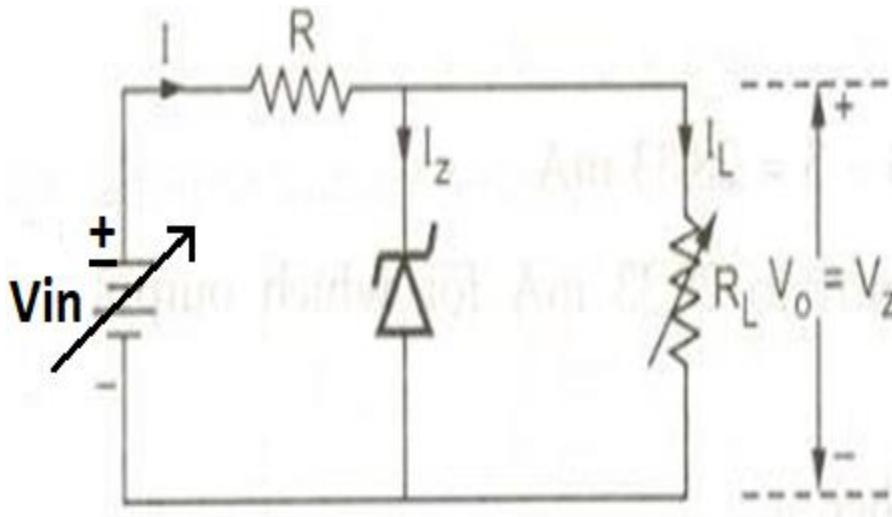

Fig:37
#### 1.24.5 Design of Zener regulator when both Supply voltage and load are varying (Fig.37)
- In the above Fig.37 both input voltage  $V_{in}$  and load  $R_L$  are varying.
- $[(V_{in(\min)} - V_Z)/R] - I_{L(\max)} > I_{Z(\min)}$  ----- (1)
- $[(V_{in(\max)} - V_Z)/R] - I_{L(\min)} < I_{Z(\max)}$  ----- (2)